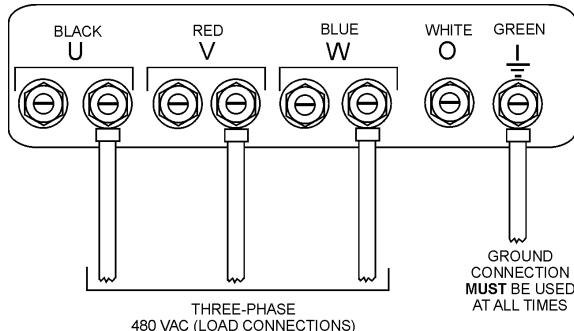

Figure 24. UVWO Terminal Lugs 3Ø-480V Connections
2. Connect the load wires to the UVWO terminals as shown in Figure 24.